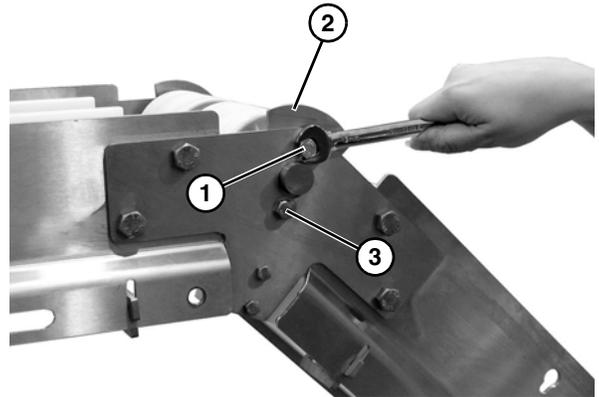
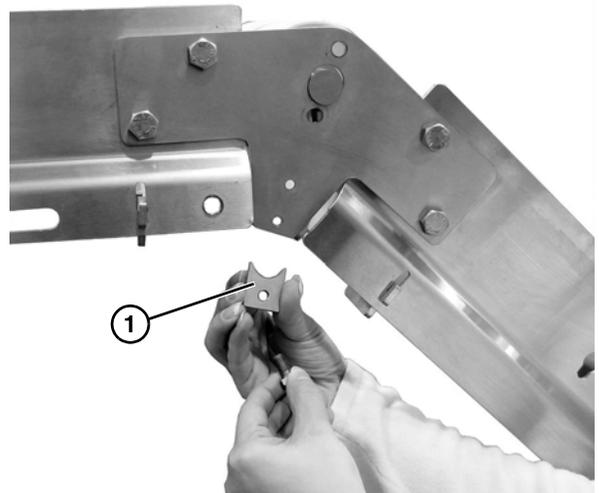

Figure 60
Figure 61
2. Remove cap screw (**Figure 60, item 1**) and edge guide plate (**Figure 60, item 2**) from each side of the conveyor.
3. Remove the cap screw (**Figure 60, item 3**) and shaft clamp (**Figure 61, item 1**) from each side of the conveyor.